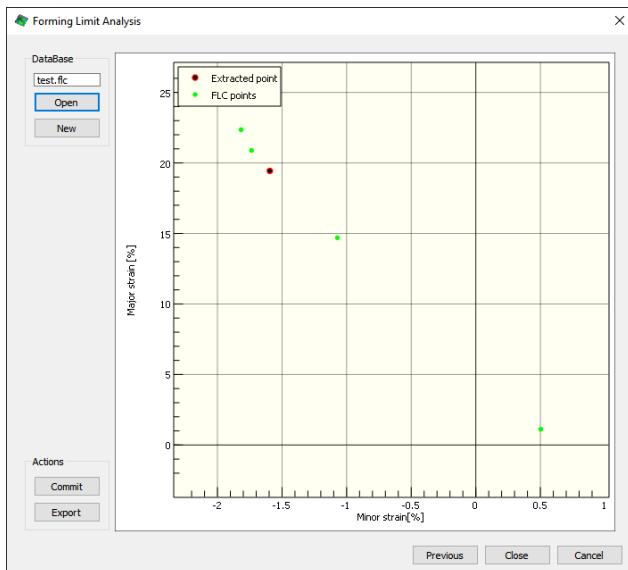

Figure 4.
7. After the user clicks **Next**, the e1 & e2 values at the selected failure point are shown in the FLD as displayed in figure 4. The software automatically loads a database (*.flc file) from the parent directory if it exists. It is recommended that all tests for the FLC are kept as sibling directories of a common parent directory in which the database is stored.
9. After all the forming tests are performed, the user will end up with one common graph that includes all the data points as shown in figure 4.